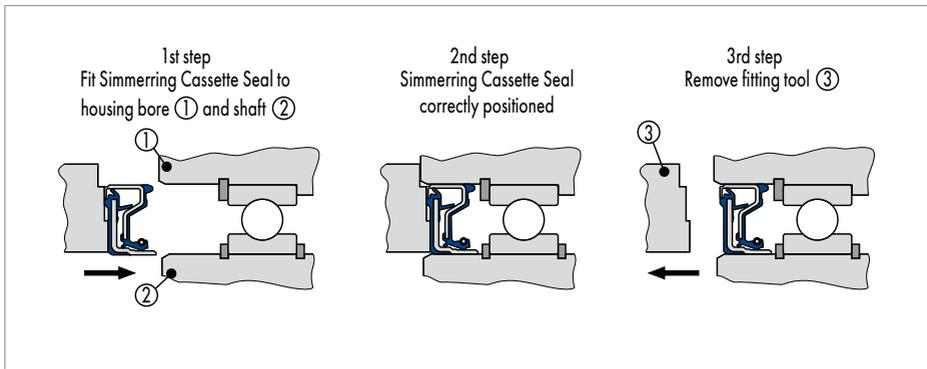

Fig. 55 Fitting of Simmerring Cassette Seal – Case C ("parallel")
- Parallel fitting (→ Fig. 55)